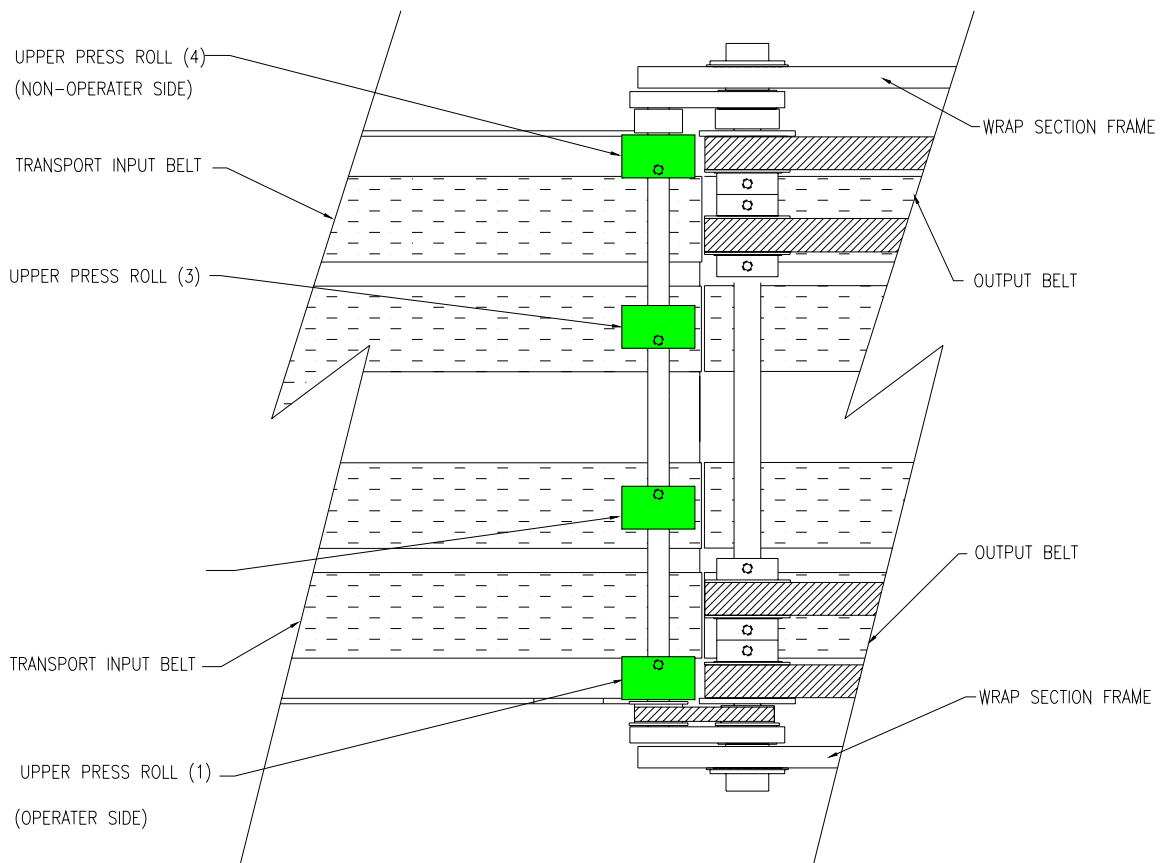

Figure 18
2. Push press roll (1) for operator side or (4) non-operator side (Figure 18), to the outermost position.